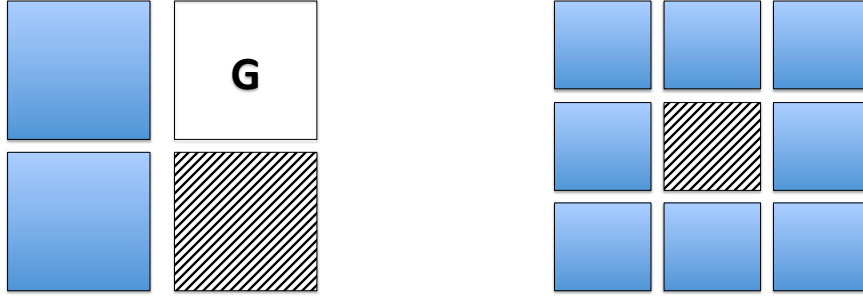

Figure 3: The two cases where the robot stops its movement behaviors.
- The robot stops moving in one of the following cases, either if the goal cell is reached or if all adjacent cells are occupied as we can see in Figure 3.